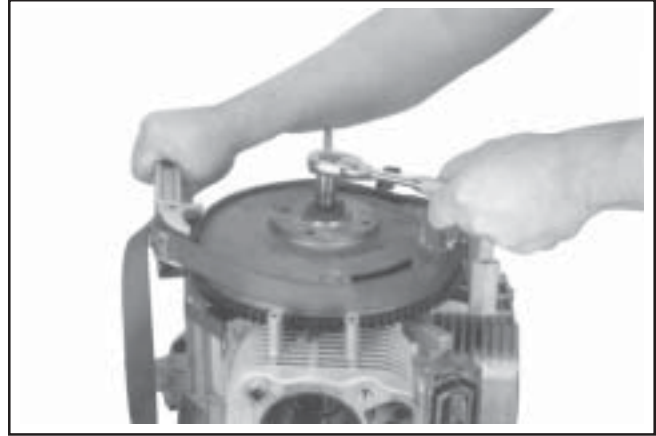

**Figure 9-50. Removing Fan.**
2. Remove the four hex flange screws or hex studs and washers. Remove the plastic fan from the flywheel. See Figure 9-50.